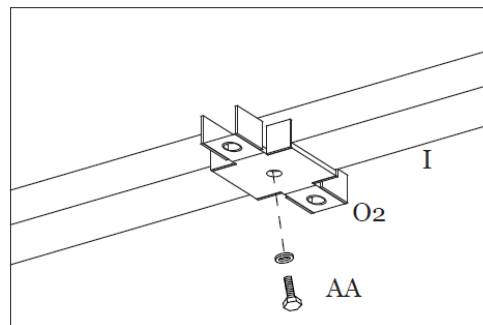

Figure 12-2
Step 12B: Attach the Main Roof Connectors (O2) to the Main Roof Vertical Center Supports (I) using Bolts (AA). See Figure 12-2.